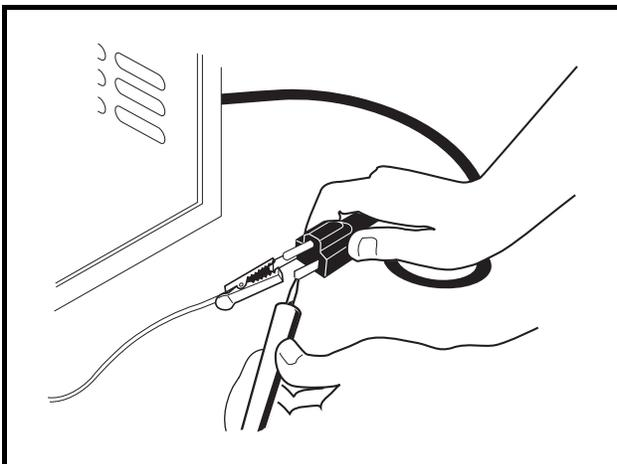

Figure 6-11 AC Cord Test
- 5.3. With relay bypassed, there should be continuity across the AC cord blades (**Figure 6-11, Page 6-15**).